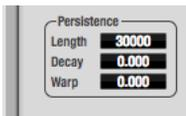

Figure 9-21: The Persistence controls.
The *Persistence* controls (Figure 9-21) affect the appearance of data from when it is first displayed until it disappears from the grid.
*Length* (Figure 9-21) sets the number of recent samples to show on the plot. For example, when Length is set to 10,000, the 10,000 most recent samples are shown.
*Decay* (Figure 9-21 on page 67) determines the brightness or hue of the minimum value. When Decay is zero, the oldest sample is black. When Decay is +1.000, the oldest sample is fully opaque (in Grayscale mode) or red (in Color mode).
*Warp* (Figure 9-21) determines the position of data points after they are first drawn. When warp is zero, data points remain in the same position.